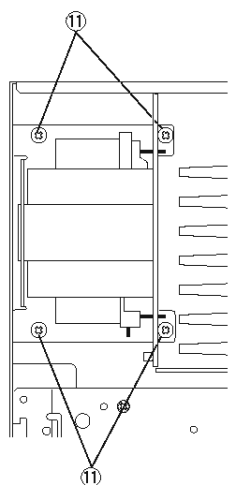

Fig. 8
- Remove 4 screws (⑪) and then remove the Power Transformer in Fig. 8.